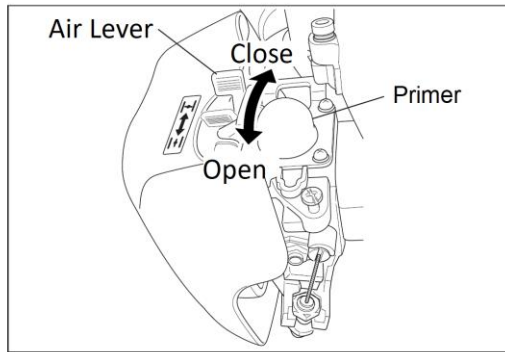

Fig. 5
3. Press the primer (**Fig. 5**) 4 or 5 times to allow the gasoline to get to the carburetor.
1. Place the air lever in the "CLOSE" **N** position (**Fig. 5**)
3. Firmly pull the starter cord 4 or 5 times until the engine starts and simultaneously press the throttle lock (**Fig. 1-7**) and the accelerator (**Fig. 1-5**) to start the hedge trimmer (**Fig. 5**).
4. After starting, place the air lever in the "OPEN" **III** position (**Fig. 5**).